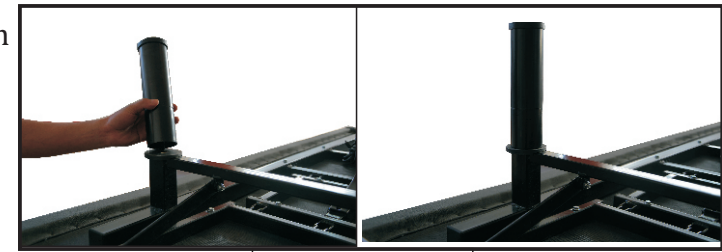

Figure 2
-Install the four legs firmly into the base of the frame. The legs screw into the threaded holes in each corner of the adjustable base frame (See Figure 2).